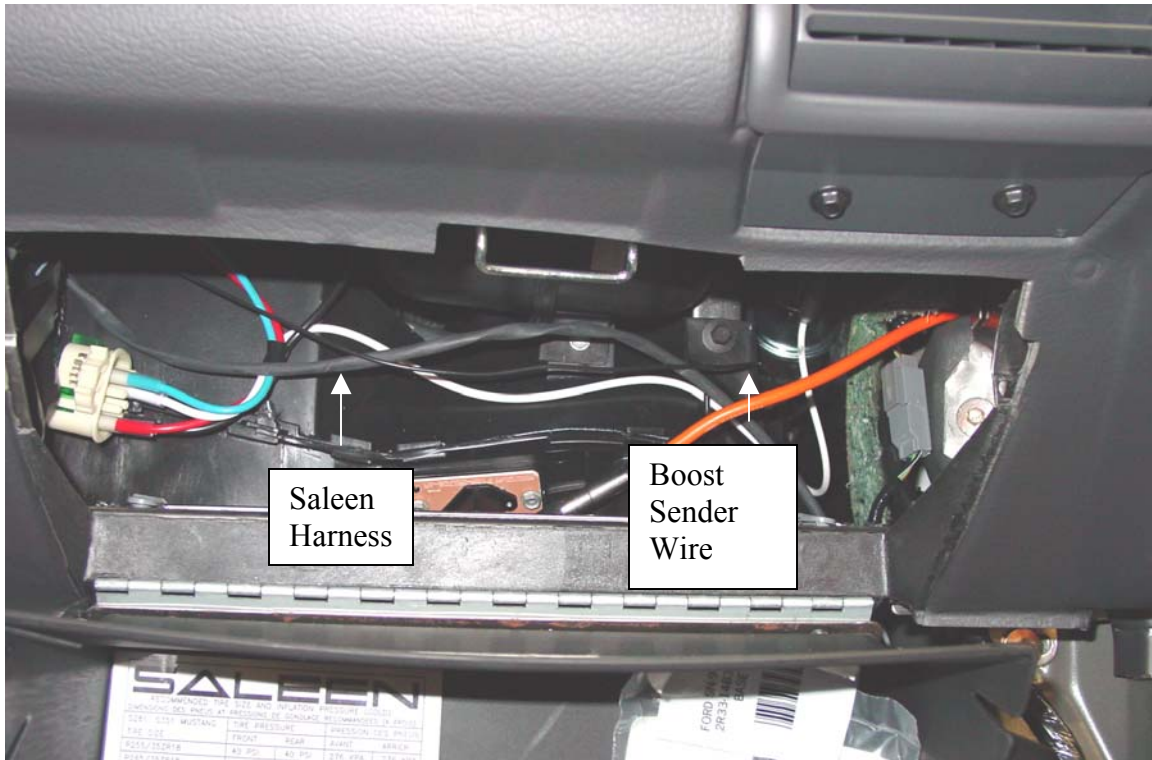

FIGURE 4.
- 7) Route the black Boost Sender wire out the passenger side firewall and run it along the firewall in the engine compartment to the Boost Sender. See Figures 4 & 5.